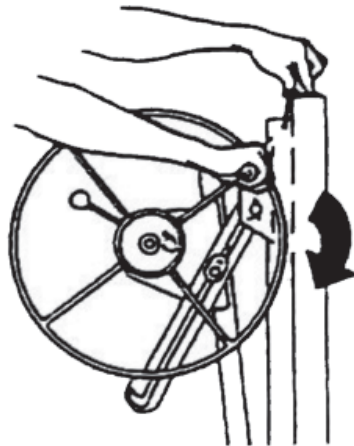

Fig. 26
- To fold the base, press down on the slide yoke ring and pivot the forward legs in until they lock in the closed position. (Fig 26)